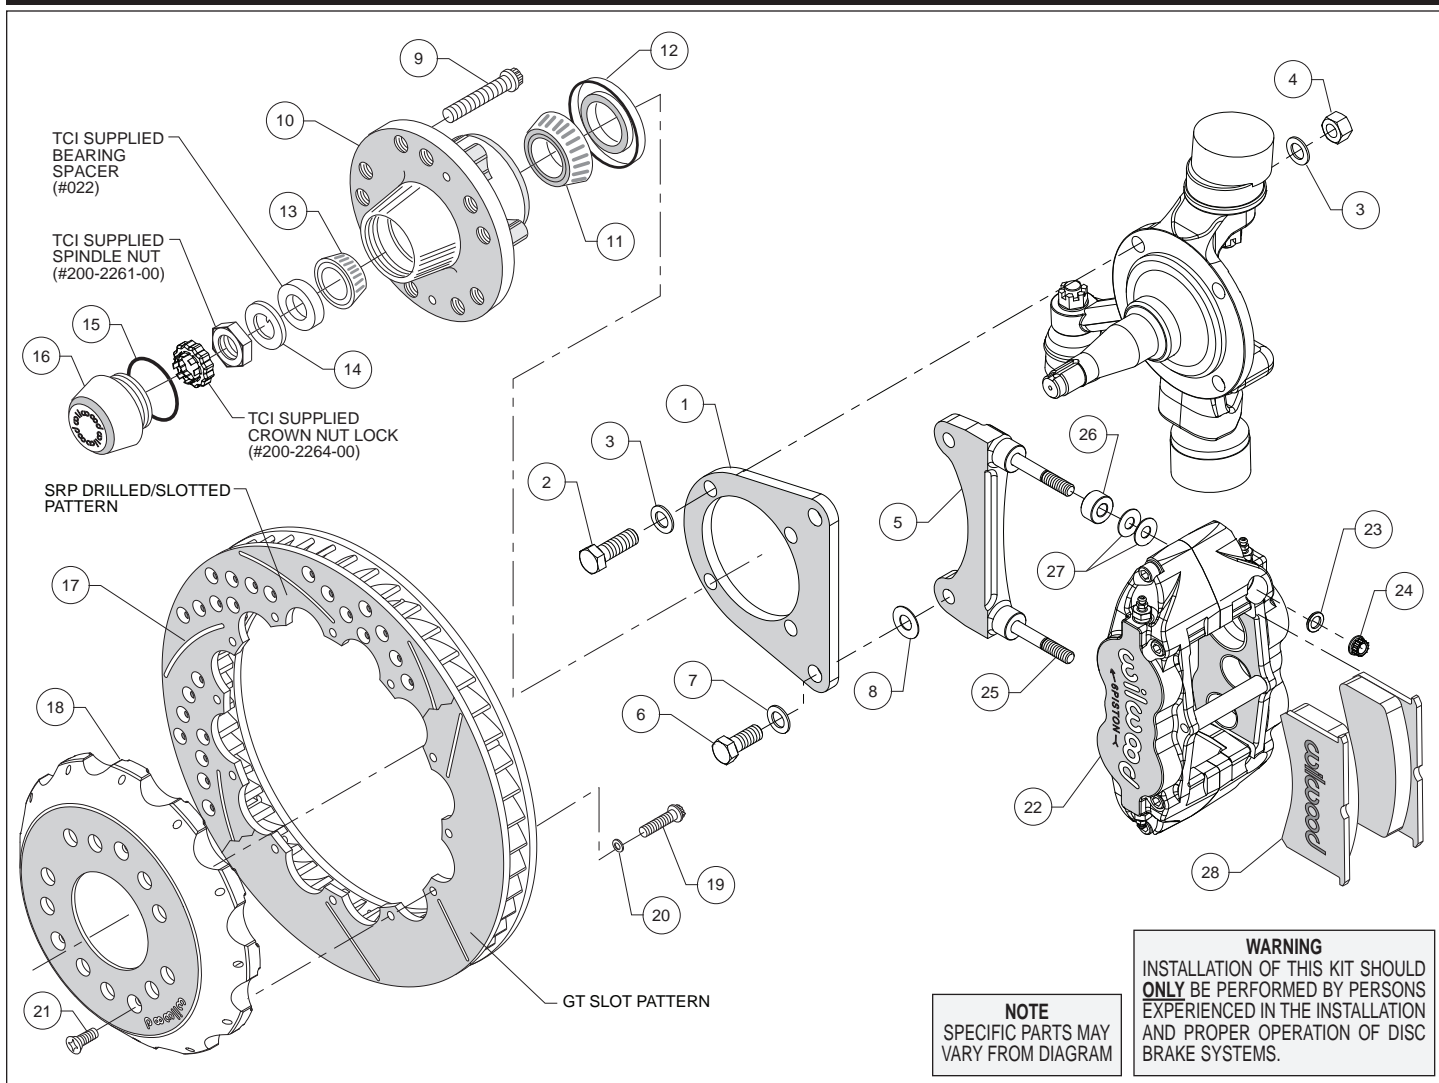
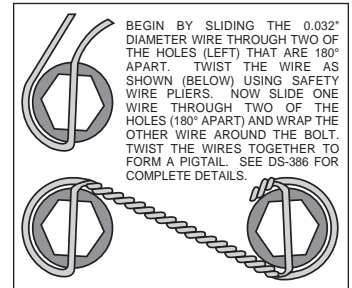

Figure 1. Typical Installation Configuration
Figure 3. Safety Wire Diagram
### Assembly Instructions (numbers in parenthesis refer to the parts list, and Figure 1 on the preceding pages):
- Orient the flat bracket (1) as shown in Figure 1, and Photo 1, and install using bolts (2), washers (3), and nuts (4). **NOTE:** The two lower mount bolts thread directly into the steering arm. Temporarily tighten the mounting bolts. **NOTE:** The bracket must fit squarely against the spindle face. Inspect for interference from casting irregularities, machining ridges, burrs, etc. After the bracket alignment has been checked, remove the bracket mounting bolts (or nuts) one at a time and apply red *Loctite*® 271 to the threads. Torque bolts to 77 ft-lbs.
- The radial mount caliper bracket (5) should initially be installed with clean, dry threads on the mounting bolts. Orient the bracket as shown in Figure 1, and Photo 2, and install using bolts (6), and washers (7). Initially place one .029" thick shim (8) on each bolt between the flat bracket (1) and radial mount caliper bracket (5), Figure 1. Temporarily tighten the mounting bolts. Later, after the caliper alignment has been checked, the mount bolts will be secured using red *Loctite*® 271.
- Install wheel studs (9) into the hub (10), Photo 3. Torque to 77 ft-lb. **NOTE:** There are two five lug patterns in the hub (5 x 4.50 and 5 x 4.75). Ensure the correct hub stud pattern is being used to fit the wheel application.
- Pack the large inner bearing cone (11) with high temperature disc brake bearing grease (available from your local auto parts store) and install into the backside of the hub (10), Photo 4.
- Install the grease seal (12) by pressing into the backside of the hub (10), flush with the end of the hub, Photo 4.
- Pack the small outer bearing cone (13) with high temperature disc brake bearing grease and install into hub (10), Photo 5. Slide the hub assembly onto the spindle. Install TCI supplied bearing spacer (#022). Secure using spindle washer (14) and TCI supplied spindle nut (#200-2261-00). Bearing adjustment: Tighten the nut while turning the hub. When there is a slight bind on the bearings, they are seated correctly. Back the nut off about 1/6 to 1/4 of a turn, or sufficiently to allow .001" to .007" end play. **WARNING:** Failure to back off adjusting nut could cause bearing to run hot and be damaged, which could cause the wheel to lock
- Screw dust cap (16) into hub (10), Photo 6. Friction created by the o-ring (15) on the dust cap keeps it from unscrewing.
**NOTE:** The O.D. of the existing spindle washer may be larger than the I.D. of the dust cap not allowing it to seat against the hub face. Therefore, use the spindle washer (14) supplied with the kit.
- Orient the rotor (17) and the hat (18) as shown in Figure 1 and Photo 7. Attach rotor to hat using bolts (19) and washers (20). Using an alternating sequence, apply red *Loctite*® 271 to the threads, and torque to 155 **in-lbs**. For an added measure of security, the bolts may be safety wired using standard 0.032 inch diameter stainless steel safety wire as shown in Figure 3. Please refer to Wilwood's data sheet DS-386 (available at [www.wilwood.com/Pdf/DataSheets/ds386.pdf](http://www.wilwood.com/Pdf/DataSheets/ds386.pdf)) for complete safety wire installation instructions.
- Slide the hat/rotor (17/18) onto the hub (10) taking care to align the small countersunk holes in the hat with the small threaded holes in the hub. **NOTE:** The hat must fit flush against the hub face or excessive rotor run out may result. Install three flat head screws (21) through the small holes in the hat (18), Photo 8, and torque to 85 **in-lb**.
- NOTE:** This kit contains distinct right and left hand calipers that must be mounted in a specific direction, as described below. Lubricate the caliper mounting studs (25) with lightweight oil. Initially place two .035" thick shims (27) and one spacer (26) on each stud between the caliper and the bracket, as shown in Figure 1 and Photo 9. Mount the caliper (22) onto the bracket (5) using lock nuts (24) and washers (23), Figure 1. Ensure that the caliper is mounted so the largest pistons are at the rotor exit end of the caliper, in relation to the direction of rotor rotation. Temporarily tighten the lock nuts and view the rotor through the top opening of the caliper. The rotor should be centered in the caliper, Photo 10. If not, adjust by adding or subtracting shims (8) between the flat bracket and the radial mount bracket. Always use the same amount of shims on each of the two mounting bolts. Once the caliper alignment is correct, remove the radial mount bracket bolts one at a time, apply red *Loctite*® 271 to the threads, and torque to 77 ft-lb.
- Remove the caliper center bridge pad retainer bolt, nut, and tube from the caliper. Insert the brake pads (28) into the caliper, with the friction material facing the rotor, as shown in Photo 11. Check that the top of the brake pad is flush with the outside diameter of the rotor, Photo 12. If not, adjust by adding or subtracting shims (27) between the caliper and the bracket. After the caliper pad height is set, torque the caliper lock nuts (24) to 30 ft-lb. Secure the brake pads in place with the center bridge pad retainer tube, bolt, and locknut. The locknut should be snug without play in the bolt or tube. Be cautious not to over tighten.